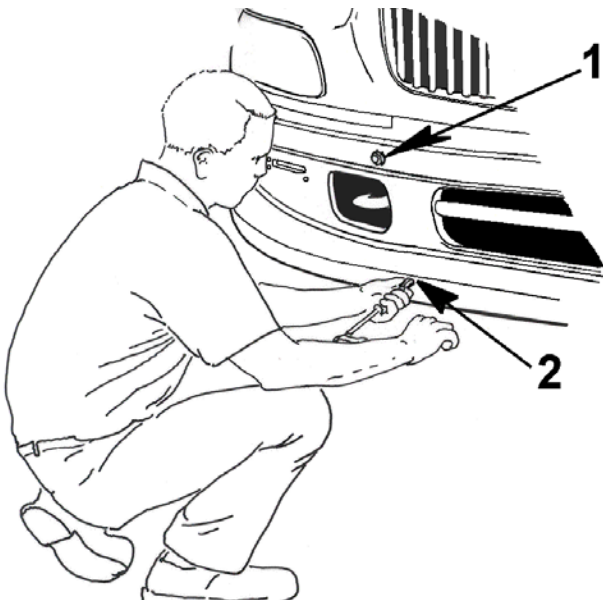

Figure 90 Front Bumper Install
2. Insert bolts in the upper holes (Figure 90, Item 1): one driver side, one passenger side. Hand tighten.